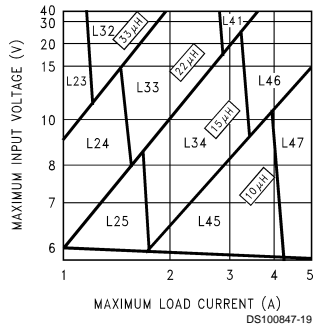
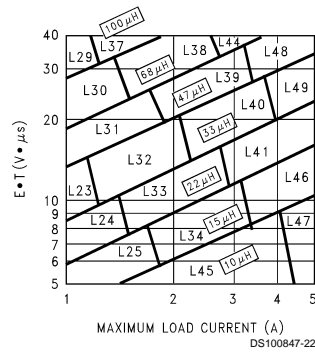

FIGURE 3. LM2679-3.3
FIGURE 6. LM2679-ADJ
**Step 3:** Determine the inductor required by using one of the four nomographs, *Figure 3* through *Figure 6*. Table 1 provides a specific manufacturer and part number for the inductor.
**Step 5:** Determine an input capacitor from Table 4 for fixed output voltage applications. Use Table 2 to find the specific capacitor type. For adjustable output circuits select a capacitor from Table 2 with a sufficient working voltage (WV) rating greater than  $V_{in\ max}$ , and an rms current rating greater than one-half the maximum load current (2 or more capacitors in parallel may be required).
**Step 3:** Use the nomograph for the 3.3V device, *Figure 3*. The intersection of the 16V horizontal line ( $V_{in\ max}$ ) and the 4A vertical line ( $I_{load\ max}$ ) indicates that L46, a 15 $\mu$ H inductor, is required.
**Step 3:** To use the nomograph for the adjustable device, *Figure 6*, requires a calculation of the inductor Volt•microsecond constant (E•T expressed in V• $\mu$ S) from the following formula:
Using *Figure 6*, the intersection of 27V• $\mu$ S horizontally and the 3.5A vertical line ( $I_{load}$  max) indicates that L48, a 47 $\mu$ H inductor, or L49, a 33 $\mu$ H inductor could be used. Either inductor will be suitable, but for this example selecting the larger inductance will result in lower ripple current.
**Important Note:** When using the adjustable device in low voltage applications (less than 3V output), if the nomograph, *Figure 6*, selects an inductance of 22 $\mu$ H or less, Table 6 does not provide an output capacitor solution. With these conditions the number of output capacitors required for stable operation becomes impractical. It is recommended to use either a 33 $\mu$ H or 47 $\mu$ H inductor and the output capacitors from Table 6.